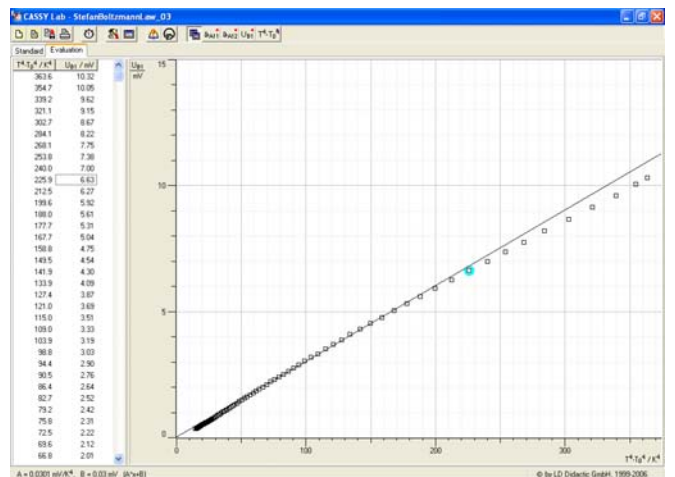

Fig. 5: Voltage "UB1" of the thermopile as function of  $T^4 - T_0^4$ .
- Close the window "Settings" and select the tab "Evaluation" (Fig. 5).